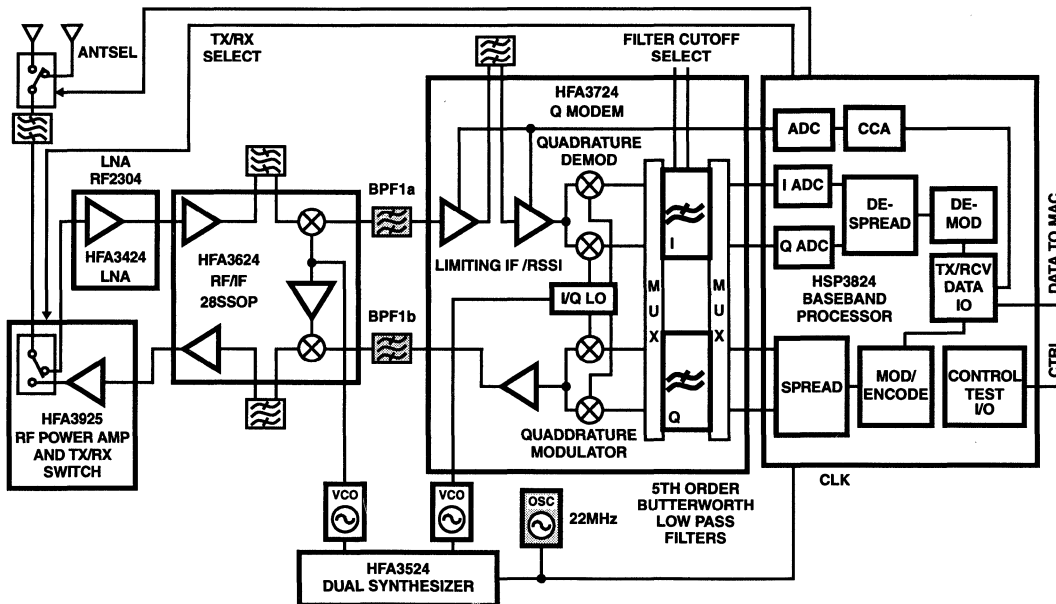

FIGURE 1. PRISM™ CHIP SET BLOCK DIAGRAM
Where the system requires that the radio operate at low rates (<250 KBPS), the designer must address the areas highlighted on the PRISM™ block diagram shown in Figure 1.
The band pass filters shown between the HFA3624 and the HFA3724 labeled as BPF1a and BPF1b on Figure 1 are centered at IF and filter the spread wideband waveform before demodulation on the receive side and before the final upconversion on the transmit side.
The HFA3724 includes a set of baseband low pass filters as the final filtering stage of the complex spread waveform. These are placed before the In phase (I) and Quadrature (Q) A/D converters for baseband processing. These filters are shown on Figure 1, as LPFs (Rx) and LPFs(TX). There are four cut off frequencies that can be selected for these LPFs. The cut off can be selected to be 17.6MHz (for a chip rate of 22 MCPS), 8.8MHz (for a 11 MCPS rate), 4.4MHz (for a 5.5 MCPS rate) or 2.2MHz (for a 2.75 MCPS rate). In addition these cut off frequencies are tunable through an external resistor by $\pm 20\%$. The user can select one of the four discrete cut off frequencies. The lowest cut off is set for a spread rate of 2.5MHz chip rate and any chip rates lower than this will require the design of external filtering between the HFA3724 outputs and the HSP3824 A/D inputs. The HFA3724 I and Q LPFs are fifth order Butterworth filters and equivalent external filters need to be designed at the lower cut off specifications.